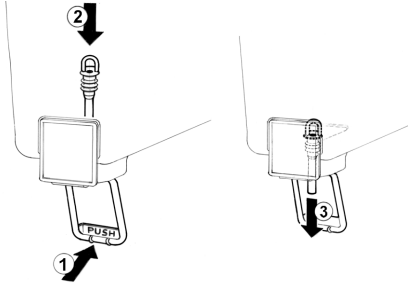

figure 4
- 2 **Pinch tube faucet:** push the dispensing handle (1) and insert the pinch tube into its vertical seat in the bowl bottom(2). Lightly pull the pinch tube end downwards til it is well
arranged (3) (see figure 4).